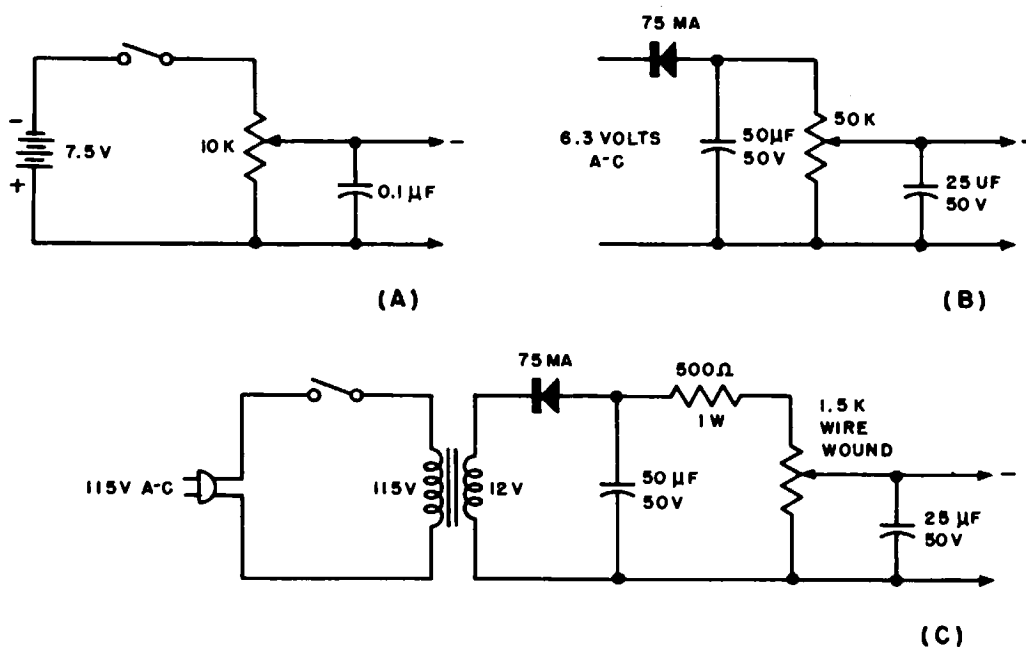

Fig. 5-6. Construction of three simple agc bias boxes. Courtesy DuMont Service News.
ANS. The schematics of three simple agc bias boxes are illustrated in Fig. 5-6(A), (B), and (C).
The bias box of Fig. 5-6(B) uses a selenium rectifier, rather than a battery, to produce the d-c output. The input to this bias box is 6.3 volts a-c, which may be tapped from a filament of the receiver under test.
The bias box of Fig. 5-6(C) is the most elaborate, but the most convenient in the long run. It uses a filament transformer and a selenium rectifier to produce the desired d-c output. The advantage
of this box over that of Fig. 5-6(B) is that its input can be connected to any 115-volt outlet.